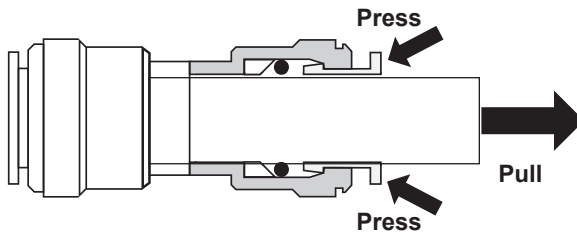

Figure 3
2. Use your thumb and index finger to press down on the lock sleeve. Use your other hand to pull out the tubing from the fitting (Figure 3).